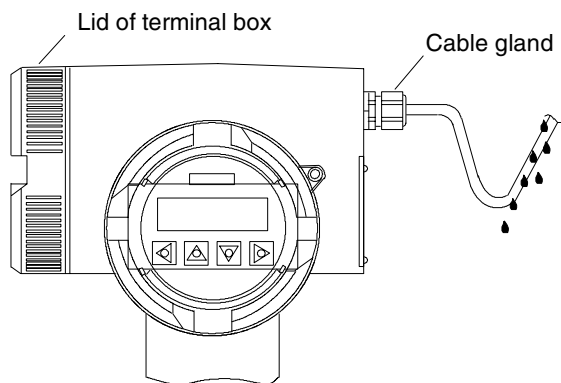

Figure 3-9 Example of laying cables before connecting the lines
- Push the supply cable and signal cable through the cable glands up to the terminal strip. Lay the cable in a loop before the cable glands so that moisture does not get inside the terminal box (Figure 3-9).